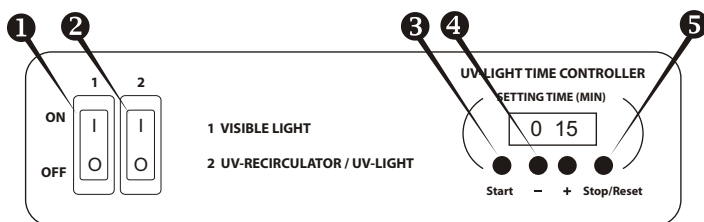

Fig.1. Control Panel
- 4.2.1. Turn ON **switch 2** (Fig.1/2). This automatically turns on the UV-recirculator with the hidden UV-lamp and activates the timer of open UV-lamp. The UV-recirculator will operate all the time until **switch 2** is turned OFF.
- 4.2.2. Use the timer keys + and - (Fig.1/4) to set the time (UV-LIGHT TIME CONTROLLER) of direct UV light exposure of the working place:
4.2.3. Press the **Start** key (Fig.1/⑤), the open UV lamp automatically will be turned on and timer starts counting up the exposure time. Timer indicator shows actual time: until 1 hour - in minutes and seconds (min:sec), after 1 hour - in hours and minutes (hh:mm).
4.2.4. The open UV-lamp can be switched off by pressing **Stop/Reset** key (Fig.1/⑥). The set time of exposition is preserved in the memory. The set time won't be preserved after the complete switching off the UV-cleaner box.
4.3.1. Turn ON **switch 1** (Fig.1/①) for lighting of the working place (this turns ON the Luminescent (Visible light) lamp).